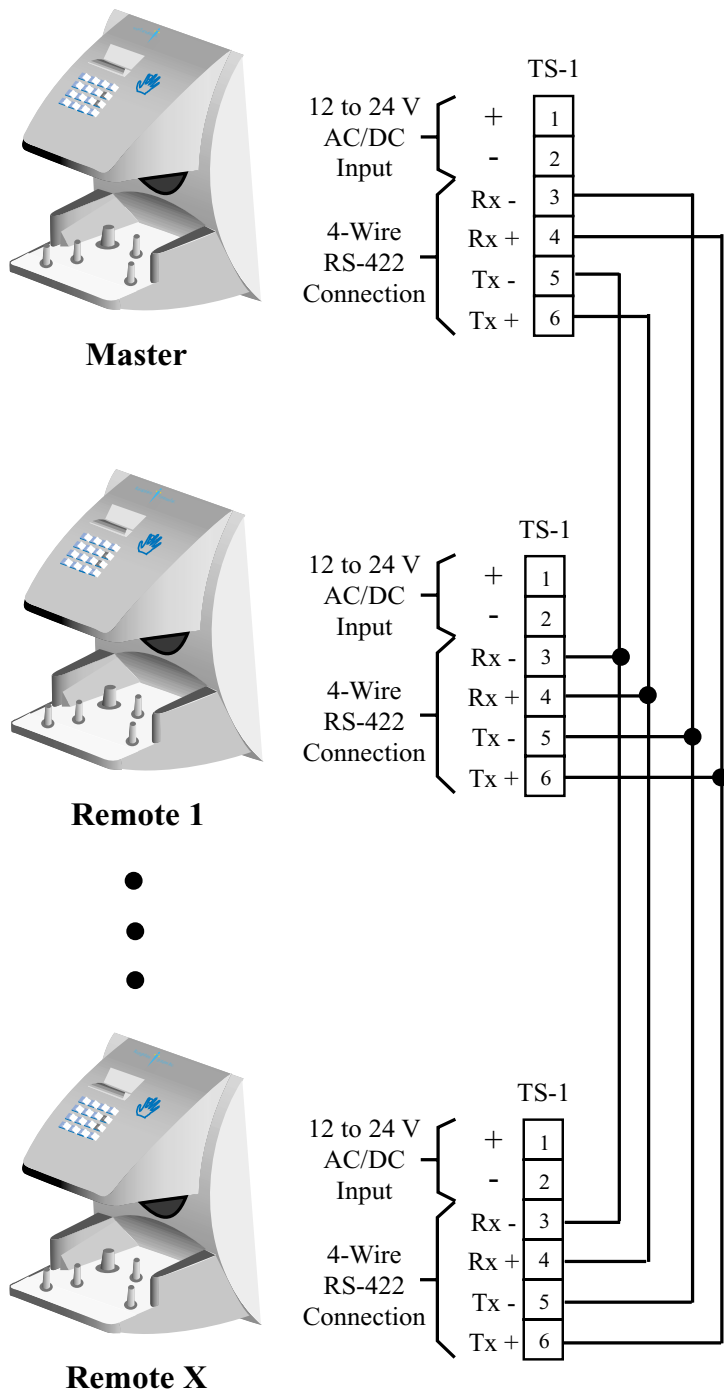

Figure 5-7: RS-422 4-Wire Master/Remote Network System Wiring Diagram
- Figure 5-7 on page 32 provides a typical RS-422 Master/Remote Network System wiring diagram.